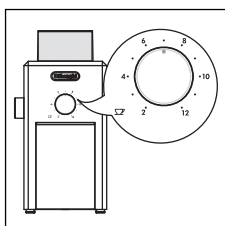

fig. 4
- Set the quantity of ground coffee by positioning the cup selector dial (Fig. 4) according to the desired quantity.
- Use the cup selector dial (**Fig. 4**) to program the quantity of ground coffee you want.